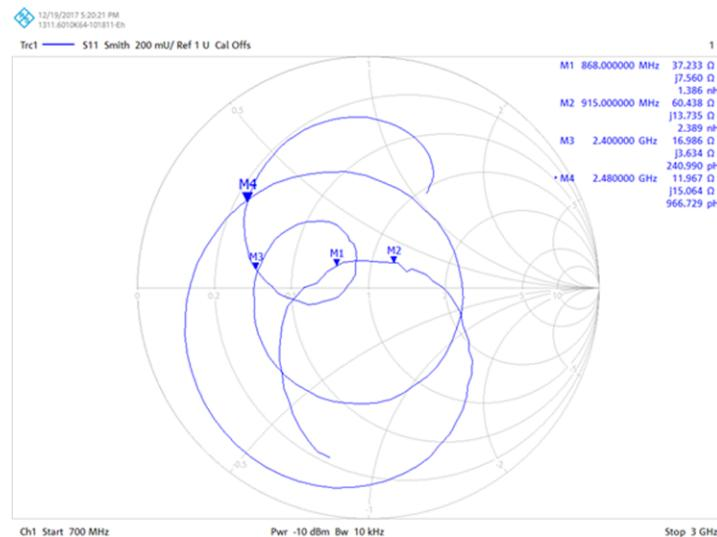
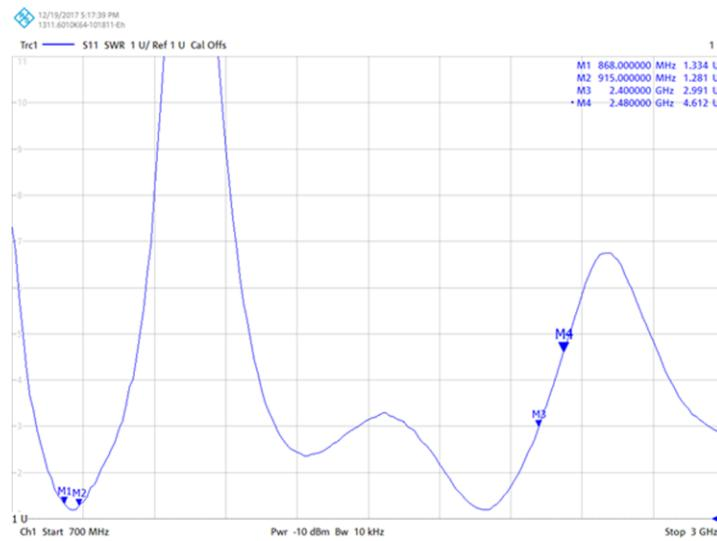

Figure 17. Smith Chart With Final Match Values of L_{HIGH} : 3.3 nH and C_{LOW} : 5.6 pF
Figure 18. VSWR Chart With Final Match Values of L_{HIGH} : 3.3 nH and C_{LOW} : 5.6 pF
- 2.44 GHz: $16+j8$, VSWR: 3.18:1 Reasonable match at the high-band but would prefer VSWR < 2.00:1; see Figure 17 and Figure 18.